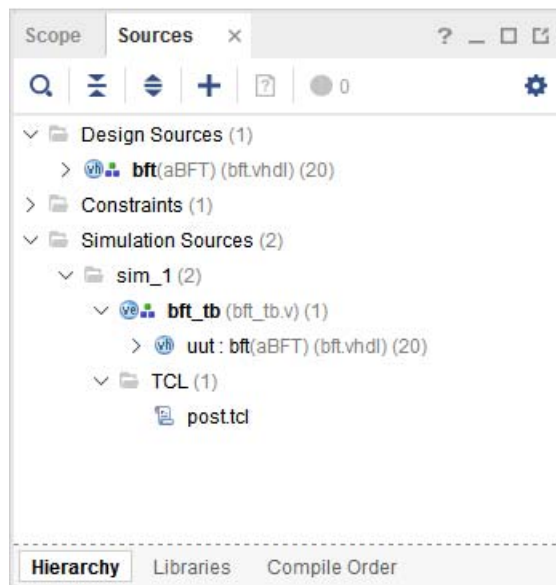

Figure 4-16: Using the post.tcl File in a Design
4. Add the `post.tcl` file to your Vivado Design Suite project as a simulation source. The `post.tcl` file displays in the Simulation Sources folder, as shown in Figure 4-16.